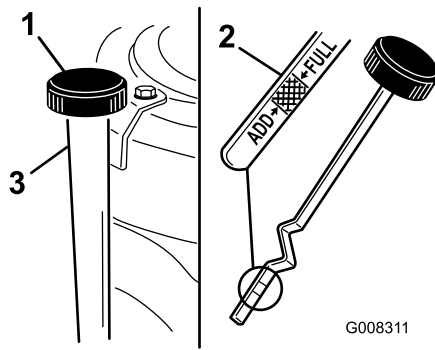

Figure 25
7. Clean around the dipstick (Figure 25) so that dirt cannot fall into the filler hole and damage the engine.
8. Unscrew the dipstick and wipe the metal end clean (Figure 25).
9. Screw the dipstick fully onto the filler tube (Figure 25).
11. Clean around the dipstick and unscrew the cap (Figure 25).
12. Slowly pour approximately 80% of the engine oil into the filler tube (Figure 25). Refer to Servicing the Engine Oil.